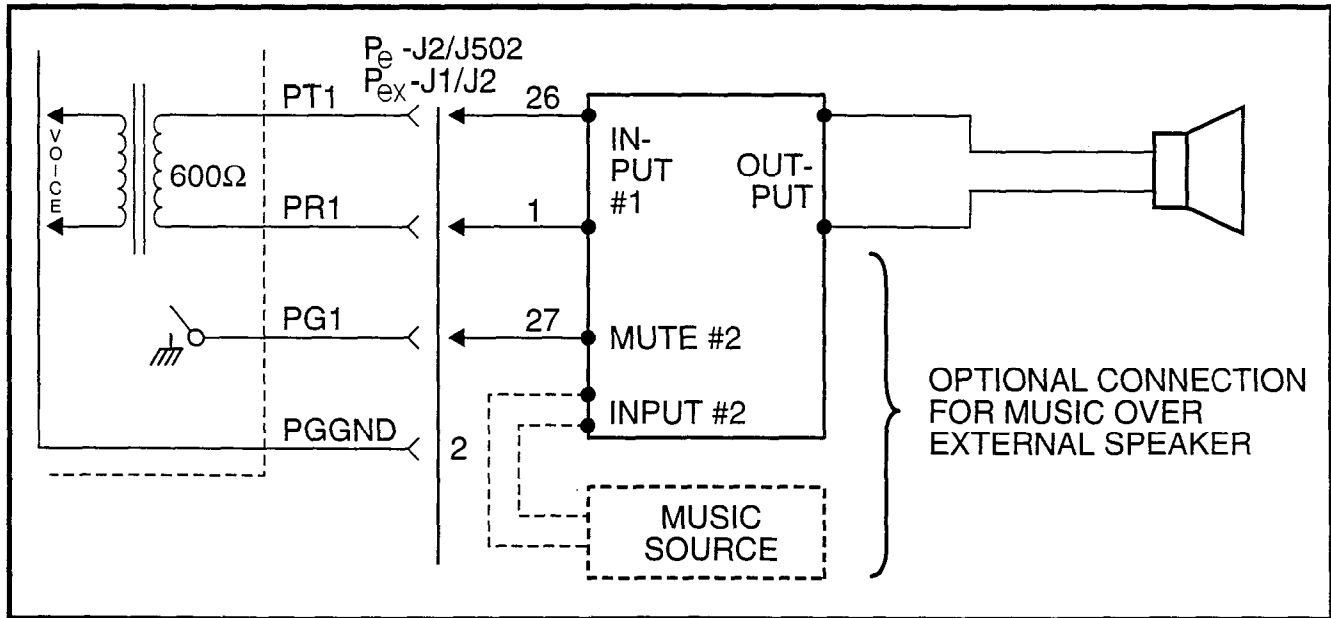

FIGURE 4-69—PAGING WITH MUSIC OVER EXTERNAL SPEAKER FROM SAME AMPLIFIER
9.32 Figures 4-69, 4-70 and 4-71 show possible paging arrangements. As a standard feature (part of the NPRU PCB), the system provides a 600-ohm output to a paging amplifier. If more than one paging zone is required, the output of the amplifier can be routed back to the NPRU PCB where it will be switched to one of five sets of speakers. The speaker operated is determined by the access code dialed by the station user. The actual access code is assigned in software (see Section **200-255-300, Programming**).
- 2) If the music is connected to a second input of the paging amplifier (Figure 4-69), the PG1